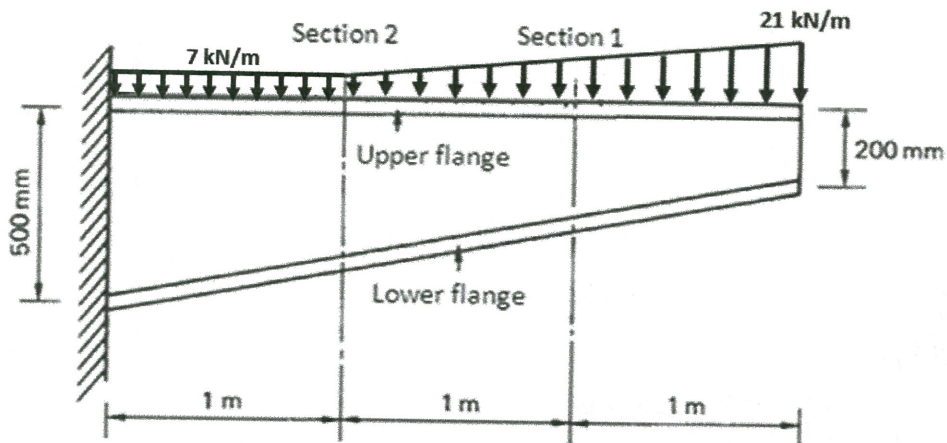

FIGURE Q5(b)
- (b) Figure Q5(b) shows the front view of a wing spar for an aircraft which carries a non-uniform load distribution. Each flange has a cross section of 500 mm^2 with top flange being horizontal.